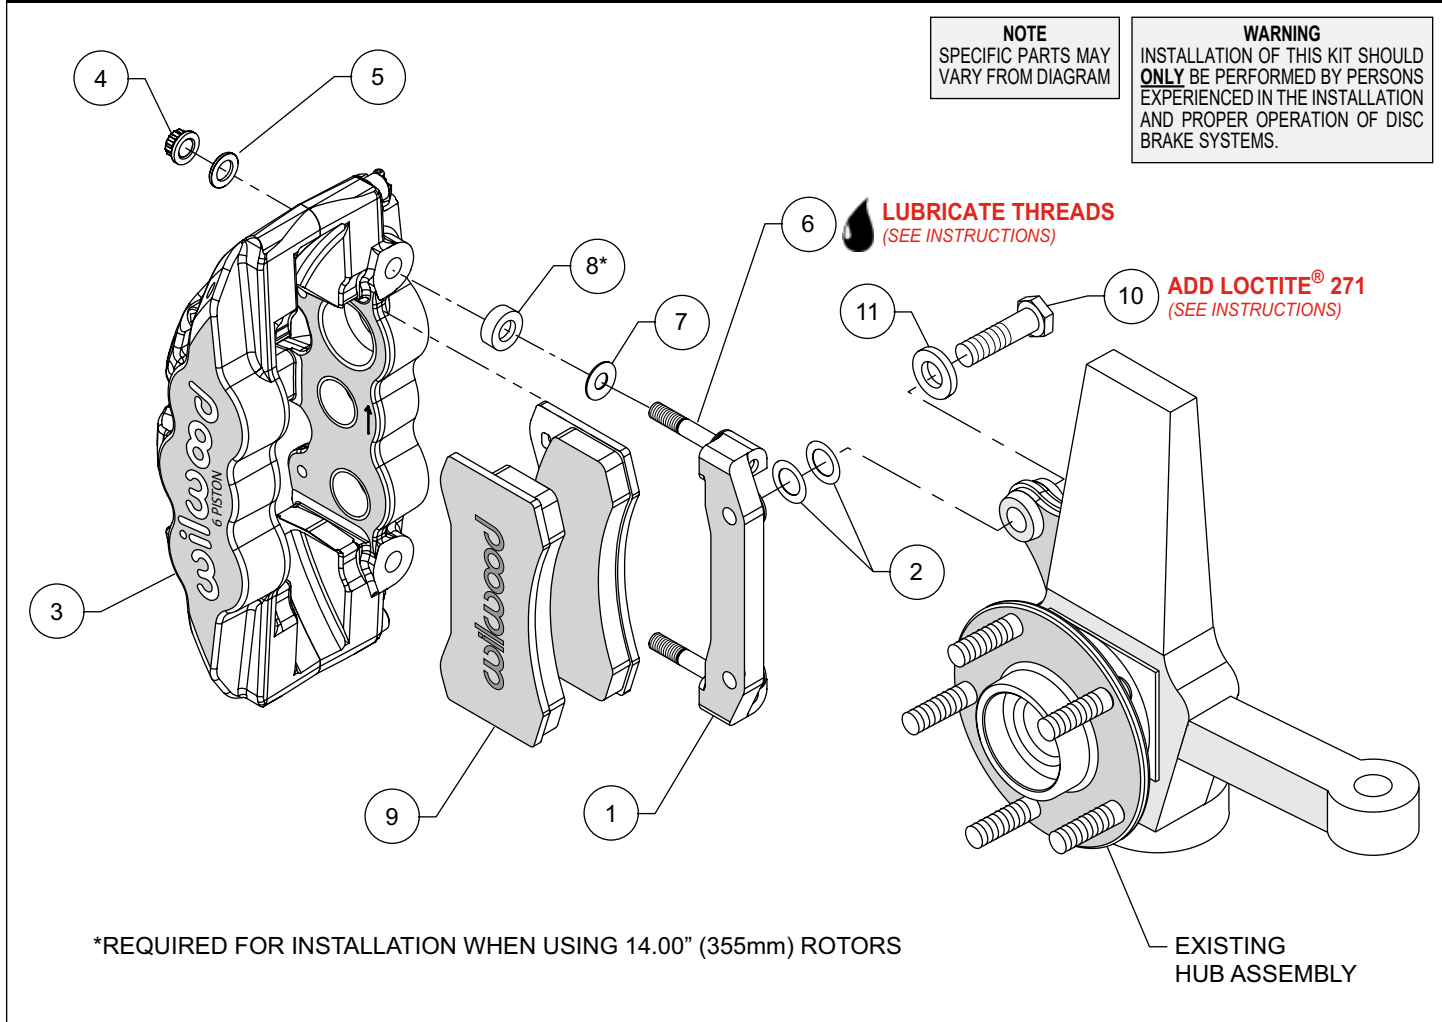

Figure 1. Typical Installation Configuration
Assembly Instructions (numbers in parenthesis refer to the parts list and Figure 1 on the preceding page):
- The caliper mount bracket (1) should initially be installed with clean, dry threads on the mounting bolts. Orient the bracket as shown in Figure 1, and install using bolts (10) and washers (11). Initially place two .029" thick shims (2) on each bolt between the bracket and upright, Figure 1. Temporarily tighten the mounting bolts. **NOTE: The bracket must fit squarely against the mount bosses on the upright.** Inspect for interference from casting irregularities, machining ridges, burrs, etc. Later, after the caliper alignment has been checked, the mount bolts will be secured using red *Loctite*® 271.
- **NOTE: This kit contains distinct right and left hand calipers that must be mounted in a specific direction, as described below.** Lubricate the caliper mounting studs (6) with lightweight oil. For 13.38" diameter rotors, initially place one .016" thick shim (7) on each stud as shown in Figure 1 and Photo 1. For 13.98" rotors, place one .300" spacer (8) on each stud prior to installing the .016" thick shim (7). Mount the caliper (3) onto the bracket (1) using lock nuts (4) and washers (5), Figure 1. Ensure that the caliper is mounted so that the largest pistons are at the rotor exit end of the caliper, in relation to the direction of rotor rotation. Temporarily tighten the lock nuts and view the rotor through the top opening of the caliper. The rotor should be centered in the caliper, Photo 2. If not, adjust by adding or subtracting shims (2) between the bracket and the upright. Always use the same amount of shims on each of the two mounting bolts. Once the caliper alignment is correct, remove the bracket mounting bolts (10) one at a time, apply red *Loctite*® 271 to the threads, and torque to 105 ft-lb.
- Remove the two pad retaining pins from the caliper (3) by carefully popping out the pin retaining clips and sliding out the pins. Insert the brake pads (9) into the caliper from the bottom, Figure 1 and Photo 3. With the friction material facing the rotor, secure the brake pads in place with the pad retaining pins and clips, Photo 4. Reinstall the caliper onto the caliper mounting bracket and temporarily tighten the lock nuts. Check that the top